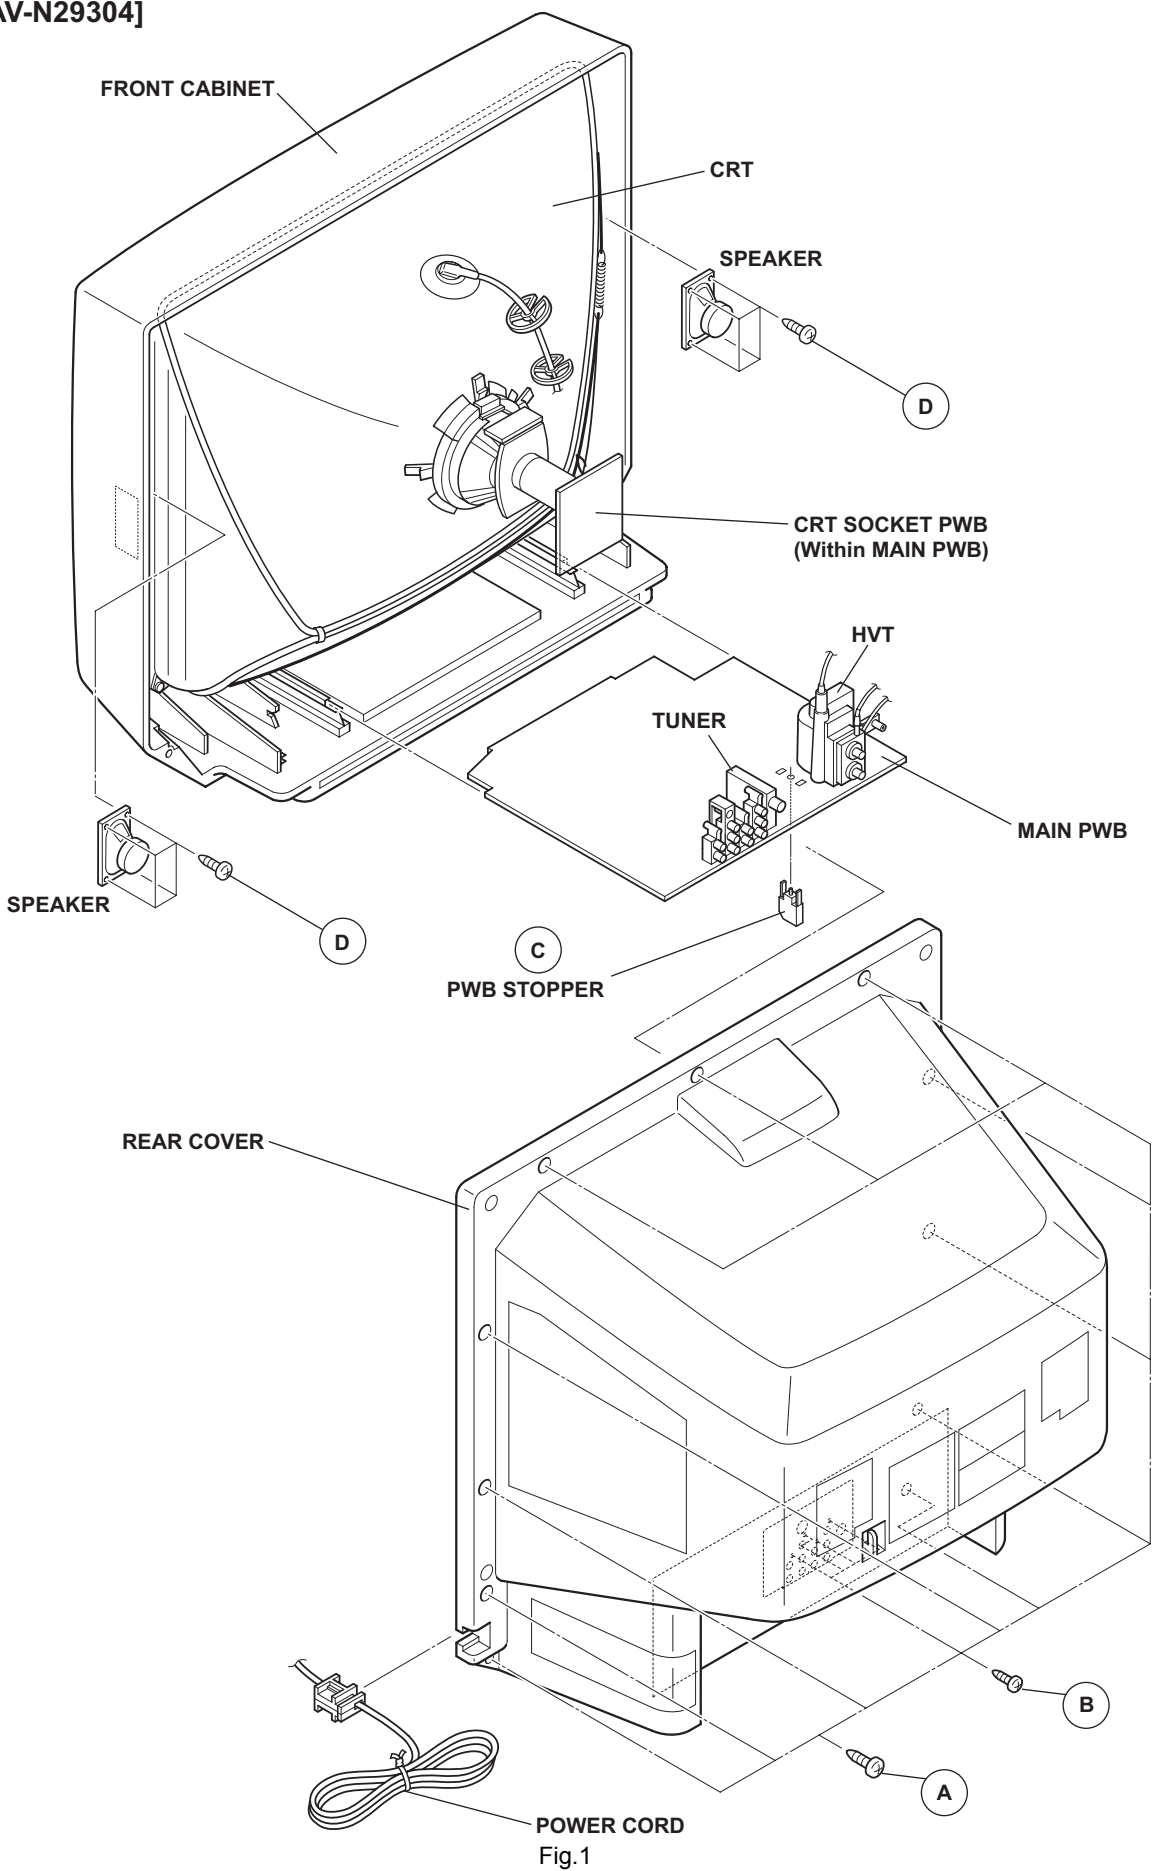

Fig.1
- (1) Unplug the power plug.
- (2) Remove the 11 screws **[A]** (Fig.1).
- (3) Remove the 4 screws **[B]** (Fig.1).
- (4) Then remove the REAR COVER toward you.
- (1) Remove the 4 screws **[D]**, then remove the speaker (Fig.1).
- (2) Follow the same steps when remove the other hand speaker.